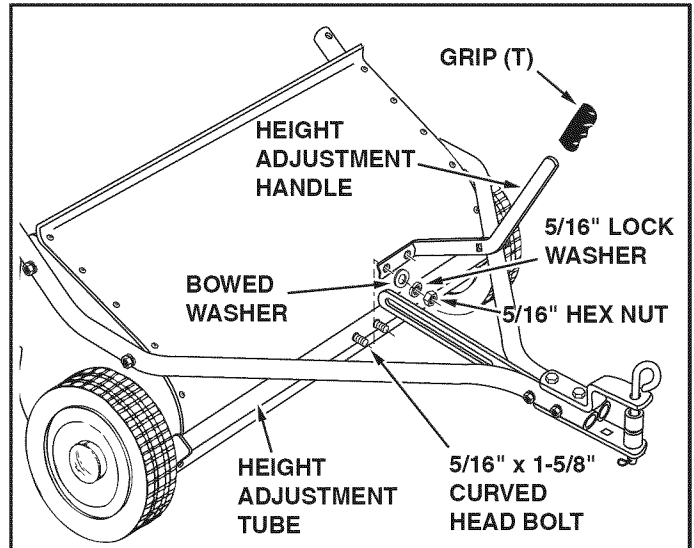

FIGURE 5
- Assemble the height adjustment handle to the height adjustment tube using the curved bolts, washers and nuts which come pre-assembled to the tube. Tighten the height adjustment handle so that the height adjustment strap is aligned with the outside of the handle. See figure 5.
- Assemble the grip (T) onto the end of the height adjustment handle as shown in figure 5.